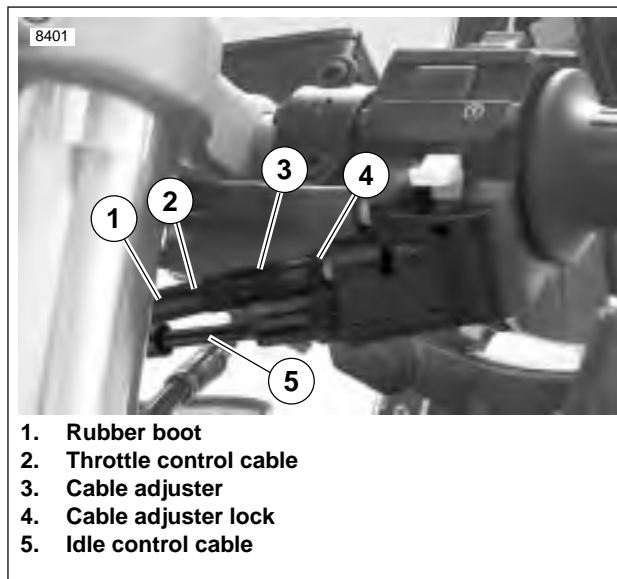

Figure 1-42. Throttle Cable Adjusters
2. See Figure 1-42. Loosen cable adjuster lock (thick disc) on each cable.